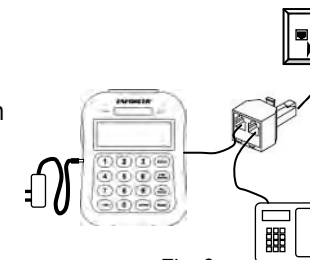

Fig. 3
7. Connect one end of the included telephone cable to an existing Touch-Tone line wall socket, and the other end to the dialer's “LINE” jack. Optionally, use the included dual outlet telephone jack adapter to connect an extension telephone using the telephone's cable (not included) (Fig. 3).